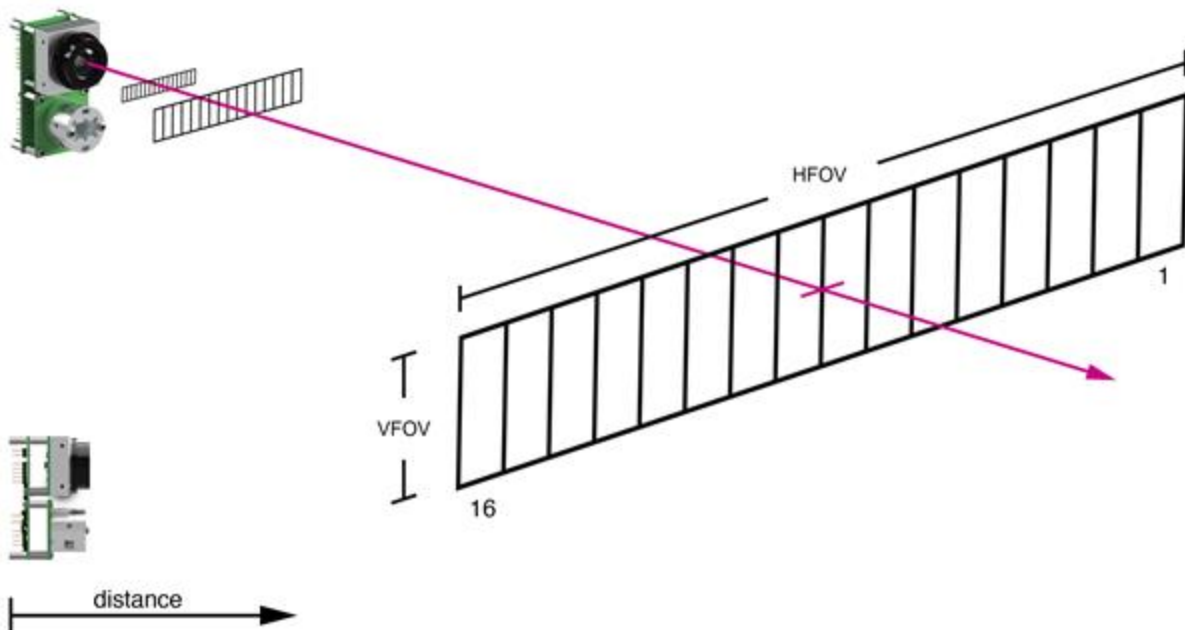

Figure 66: Horizontal field of view (HFOV) and Vertical field of view (VFOV)
* These parameters present the sensitivity of the module across the horizontal FOV (segment amplitude efficiency) and vertical FOV (amplitude vs. tilt). See Figure 66.